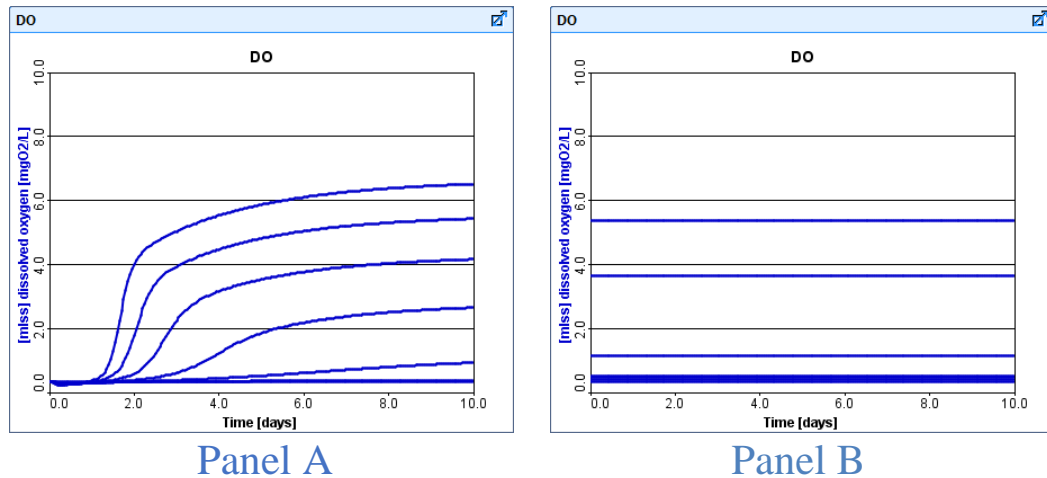

Figure 9-2 – Dynamic Sensitivity Analysis (Steady-State Off vs On)
Examples of the two types of dynamic sensitivity analysis that you can perform are shown in **Figure 9-2**.
Panel A of **Figure 9-2** shows the change in dissolved oxygen (DO) concentration of the mixed liquor over time for several values of the wastage flow rate. Notice that the simulations all start at the same value, the preset initial value.
There are important differences in the interpretation to be given to these two cases. In the set-up resulting in the graph in Panel A of **Figure 9-2**, the results demonstrate how the model responds to different values of the wastage rate starting from specific values of the model state variables, including the DO. In this case, it may be necessary to either extend the simulation or to perform a number of re-runs to observe the ultimate, periodic steady-state for the system. This type of analysis would be useful to answer questions such as the following:
In Panel B of **Figure 9-2**, the situation is considerably different. In this case the simulation starts at a different DO value for each run. Here the steady-state solver is used to determine steady-state values for each value of the independent variable, set the initial conditions equal to these values and then started a dynamic simulation. The model is assumed to have been operating in a steady-state. At time=0 the value of the independent variable changes to that specified in the sensitivity analysis and a dynamic simulation is conducted until the specified stop time. This type of analysis is useful for answering questions such as the following:
The results of a dynamic sensitivity analysis can be displayed in one of two ways. **Figure 9-2** shows one way, that is, selected dependent variables plotted versus time. This is referred to as a **time dynamic** sensitivity analysis.